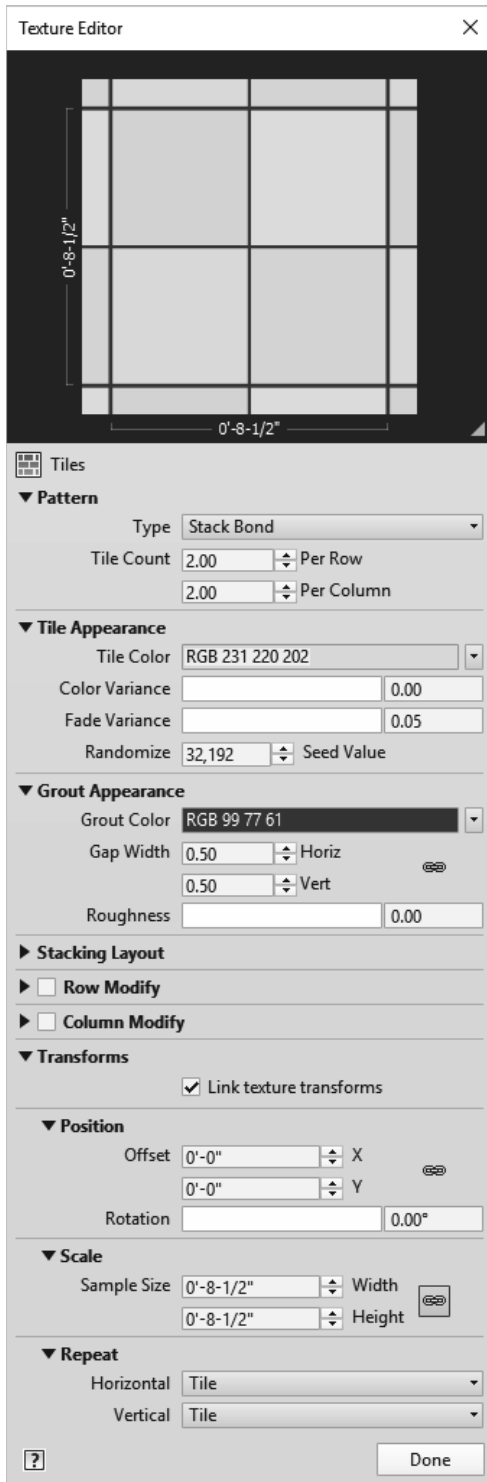

FIGURE 4-4.5 Texture editor
You are now in the *Texture Editor* shown in Figure 4-4.5. Here you can adjust all sorts of settings related to how the tile pattern should appear. One of the adjustments one can make is the tile pattern. Is the pattern stack bond, running bond, common Flemish bond, etc.? You can even adjust the grout color and size.
22. Under the Ceramic heading, click **Edit...** and make the adjustments shown in Figure 4-4.5.